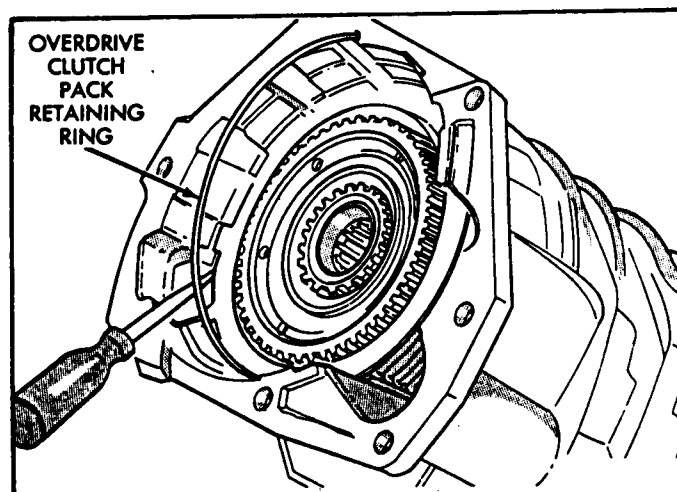

Figure 2
2. Remove the overdrive clutch pack wire snap ring. This snap ring is ROUND, as shown in Figure 2.